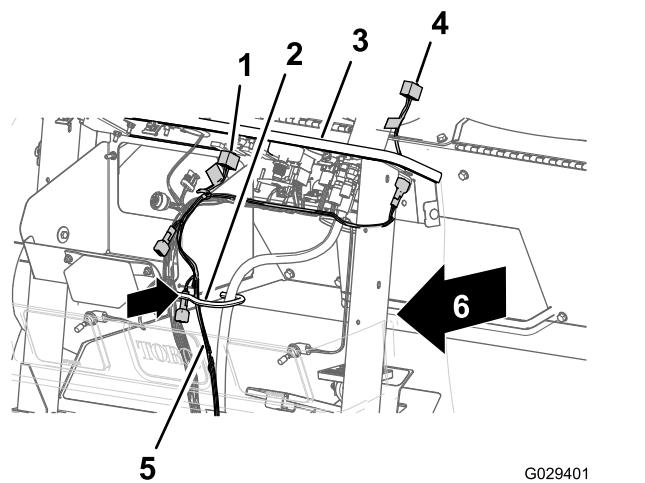

Figure 15
3. Route the 240 cm (94-1/2 inch)—dash-panel branch of the wire harness through the grommet at the opening in the forward bulkhead and inboard of the cable and hose hook (Figure 15).